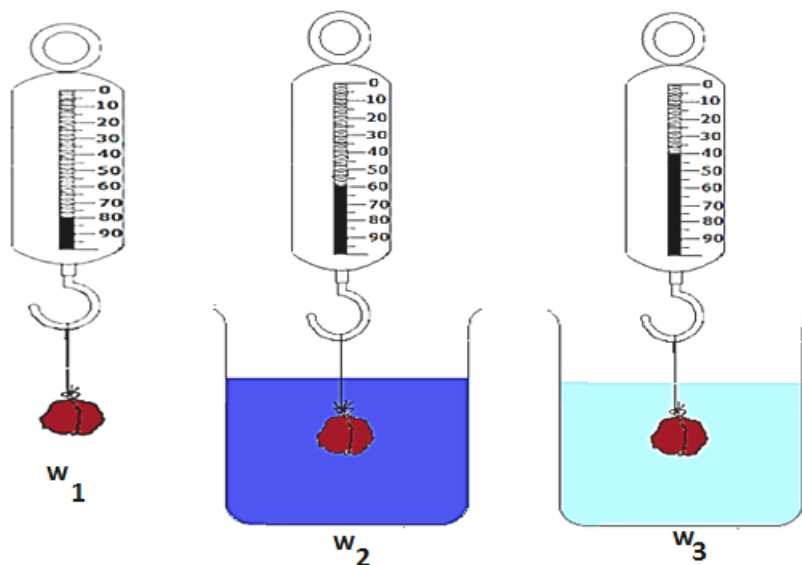

Figure 15
- (d) Repeat the experiment by varying the values of the masses up to five different values in order of 50g mass. Figure 15 is illustrative: